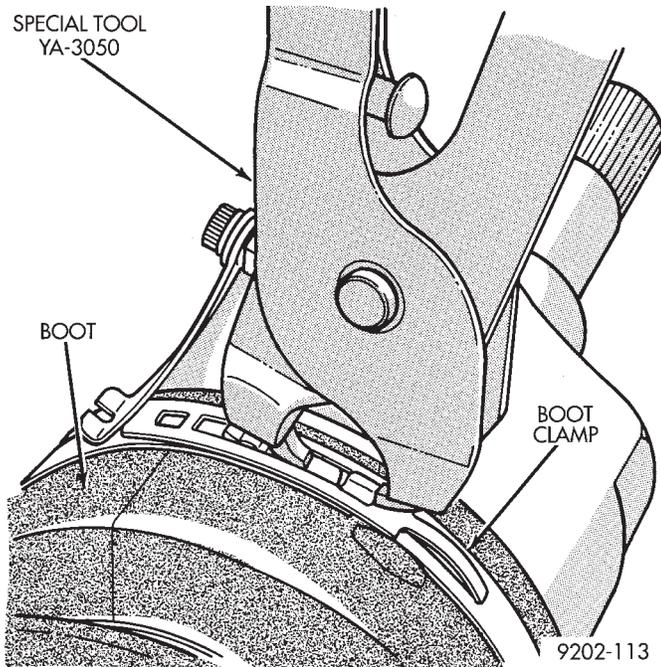

Fig. 18 Locking Boot Clamp
(4) Use Clamp Locking Tool Snap-On YA3050 or equivalent shown in (Fig. 18) to install the clamp on the boot.
(5) Place the prongs of the clamp locking tool in the holes on the clamp and squeeze together until the two ends meet (Fig. 18).